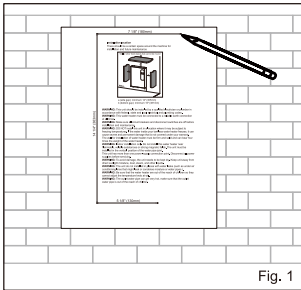

Fig. 1
1. Mark the positions of mounting holes on the wall as the installation template shows (Fig. 1).